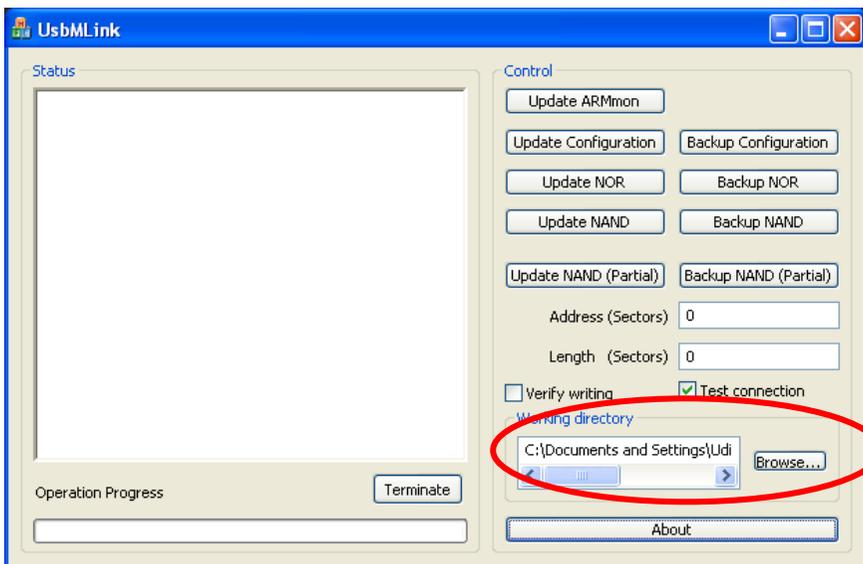

Figure 106:
6. Put a jumper on J3, turn pin 2 on SW2 upwards, and enter 'Run'. The following screen will appear (Figure 106). Browse for the **nand.in** file located at SBC Folder>SW Version.